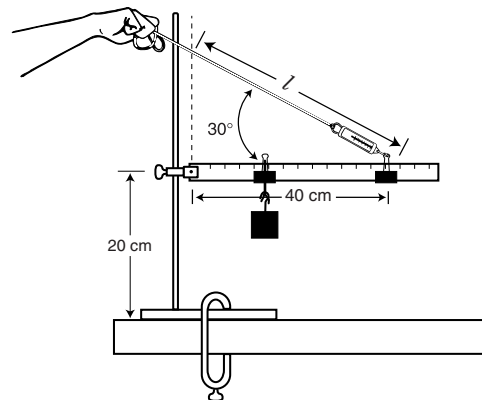

Figure 4.
1. Use simple right-hand triangle geometry (see Figure 4) to determine the length of string (l) needed to support a 40-cm-long boom when the string is held at a 30° angle and the boom is held parallel with respect to the ground. Assume the string is attached to the wall directly above the pivot point of the boom.